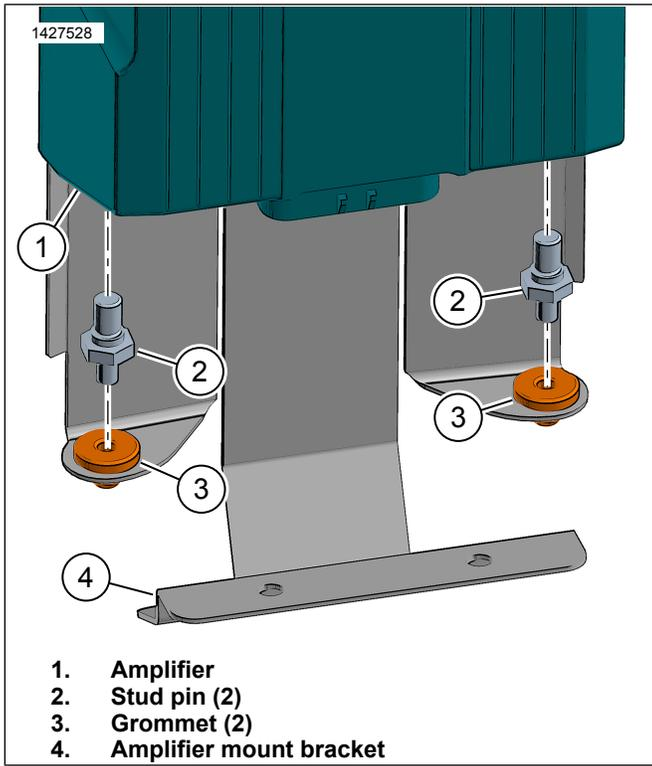

Figure 12. Amplifier Stud Pin
4. Figure 12 Install grommet (3) into amplifier mount bracket (4).
5. Install stud pin (2) into amplifier (1). Tighten.